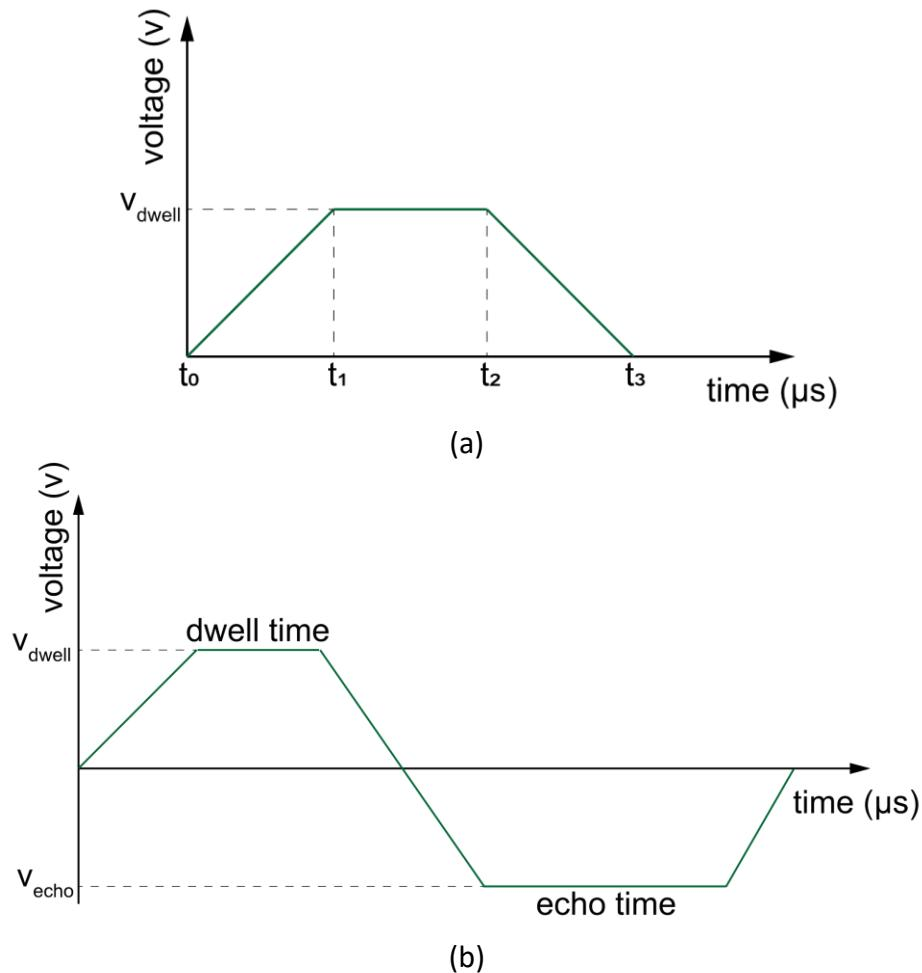

Fig. 2 Waveform used for actuation of the piezo-actuator (a) a unipolar waveform and (b) a bipolar waveform
2) The shape of the electric pulse that actuates the inkjet nozzle plays an essential role in forming satellite-free droplets. Considering the waveforms shown in Fig. 2, answer the following questions:
- Considering the unipolar waveform (Fig.2 (a)), sketch/draw the pressure wave propagation inside the capillary tube in Fig. 2 at different stages (B to H).
- For generating satellite-free droplets, it is more advantageous to use bipolar waveforms (Fig.2 (b)). Explain how a bipolar wave helps with the generation of satellite-free droplets.